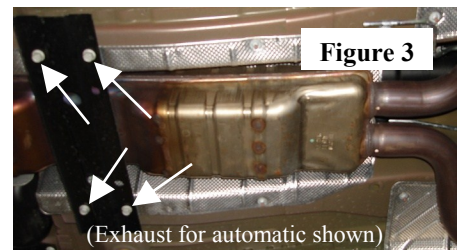

Figure 3
3. Remove (4) cross-brace support bolts using 15mm socket (figure 3). Place hardware to the side.